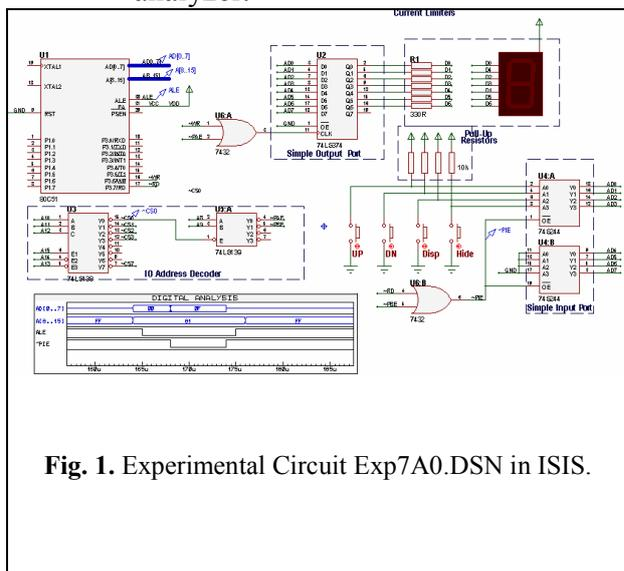

Fig. 1. Experimental Circuit Exp7A0.DSN in ISIS.
- 2- Use **File**→**Load design** to open the file-browser, navigate to **Exp8** folder, and load **Exp8A1.DSN** file to ISIS. You will get the design window seen in Fig.1.